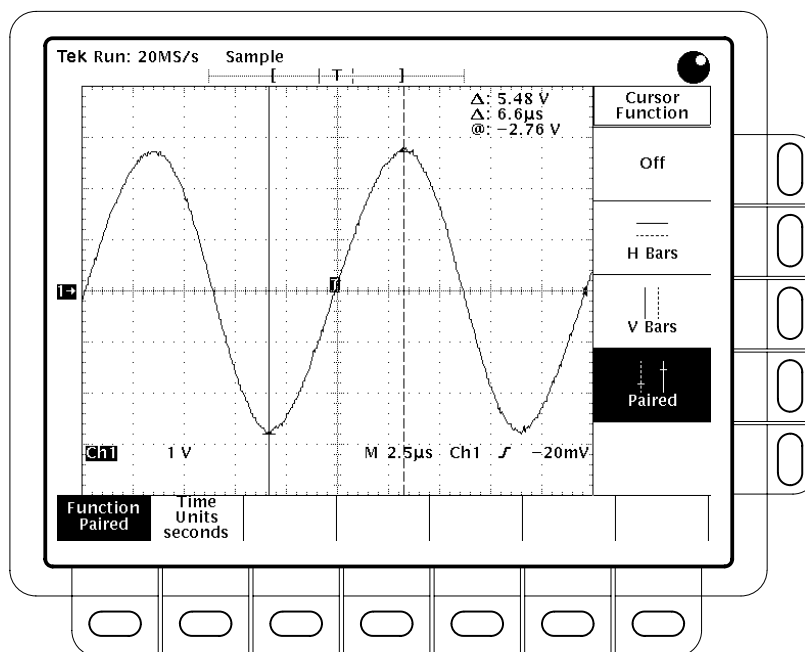

Figure 3–16: Paired cursor measurements of a sine wave
5. Use the General Purpose Knob to move one cursor to a desired measurement point. For example, if you wanted to measure both the peak-to-peak voltage and period of a sine wave, you would start by moving one paired cursor to a “valley” (see Figure 3–16).